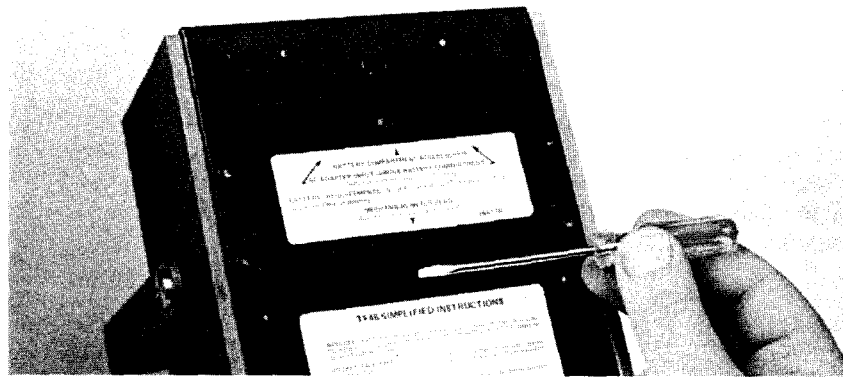

Fig. 4: Adjusting Mechanical Meter Zero.
3. If the meter is not zeroed, use a narrow blade-type screw-driver to adjust the meter zero adjustment through the hole in the rear of the case. (See Fig. 4.)